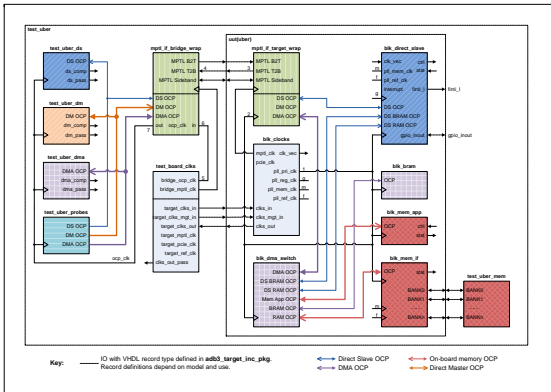

Figure 35 : Uber Design Testbench and Top Level Block Diagram (MPTL)
Figure 35 shows the testbench and main elements of the **uber** FPGA design using MPTL interface IP.
- The testbench OCP clock `ocp_clk_out` path is shown in Figure 35 as the route consisting of points 1, 2, 3, 4 and 7.
- The testbench OCP clock `ocp_clk_out` path is shown in Figure 35 as the route consisting of points 5, 6